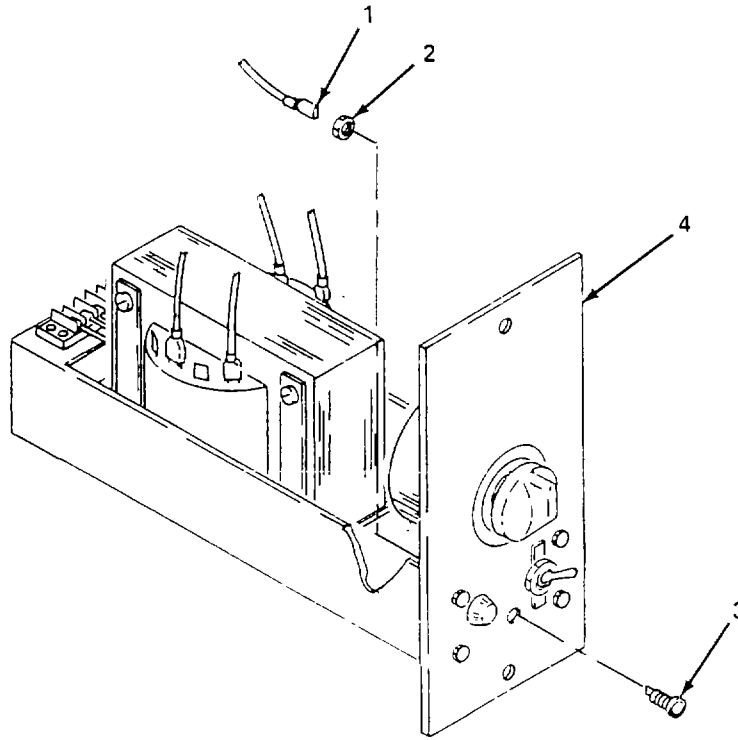

Figure 5-24. Single Light Power Supply (Outer Lock) Indicator Light, Replace.
(2) *Replace indicator light. (figure 5-24)*
- (a) Tag and disconnect electrical leads (1).
- (b) Remove nut (2) and remove indicator light (3).
- (c) Install indicator light (3) in cover (4) and secure with nut (2).
- (d) Connect electrical leads (1).